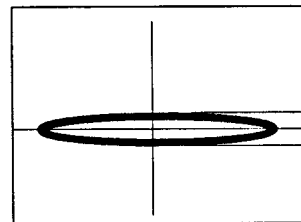

Fig. 11
3. Insert the small screwdriver into the grating adjustment hole, and fine-adjust the grating so that the Y-axis amplitude of the Lissajous figures is minimized. (Fig. 11)